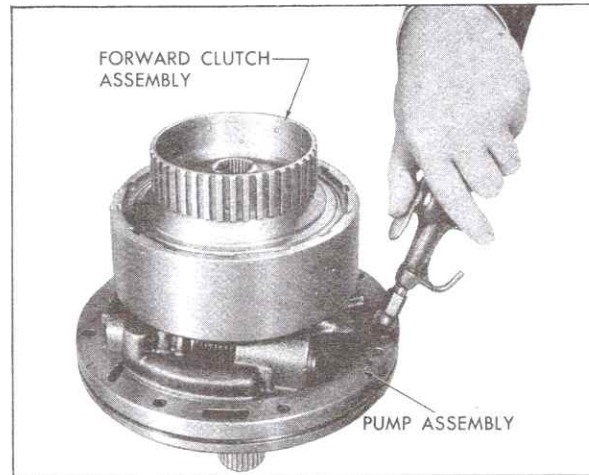

Fig. 7-66 Air Checking Forward Clutch
13. Place forward clutch housing on pump delivery sleeve and air check clutch operation by applying air through forward clutch passage in pump, Fig. 7-66, to actuate piston and move forward clutch.